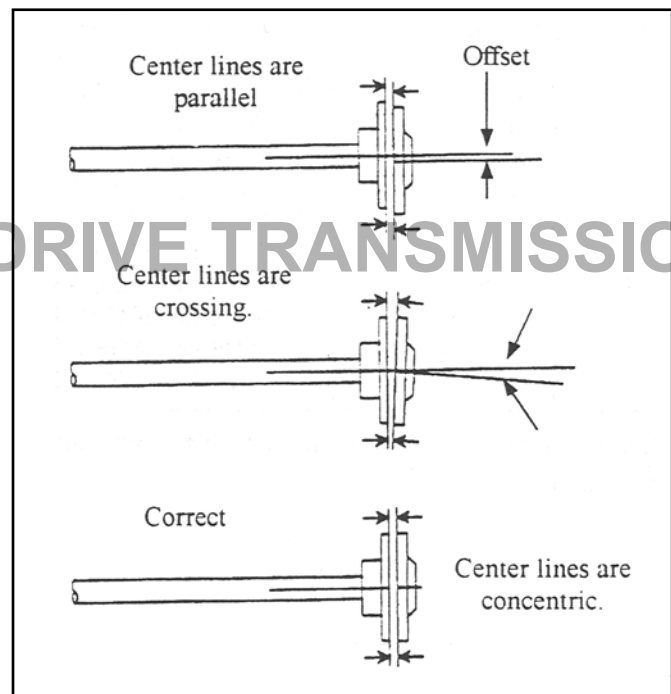

Figure 4. Shaft Concentricity
3. The center lines of the transmission output and propeller shafts are not concentric. Their center lines may be parallel or crossing (figure 4).